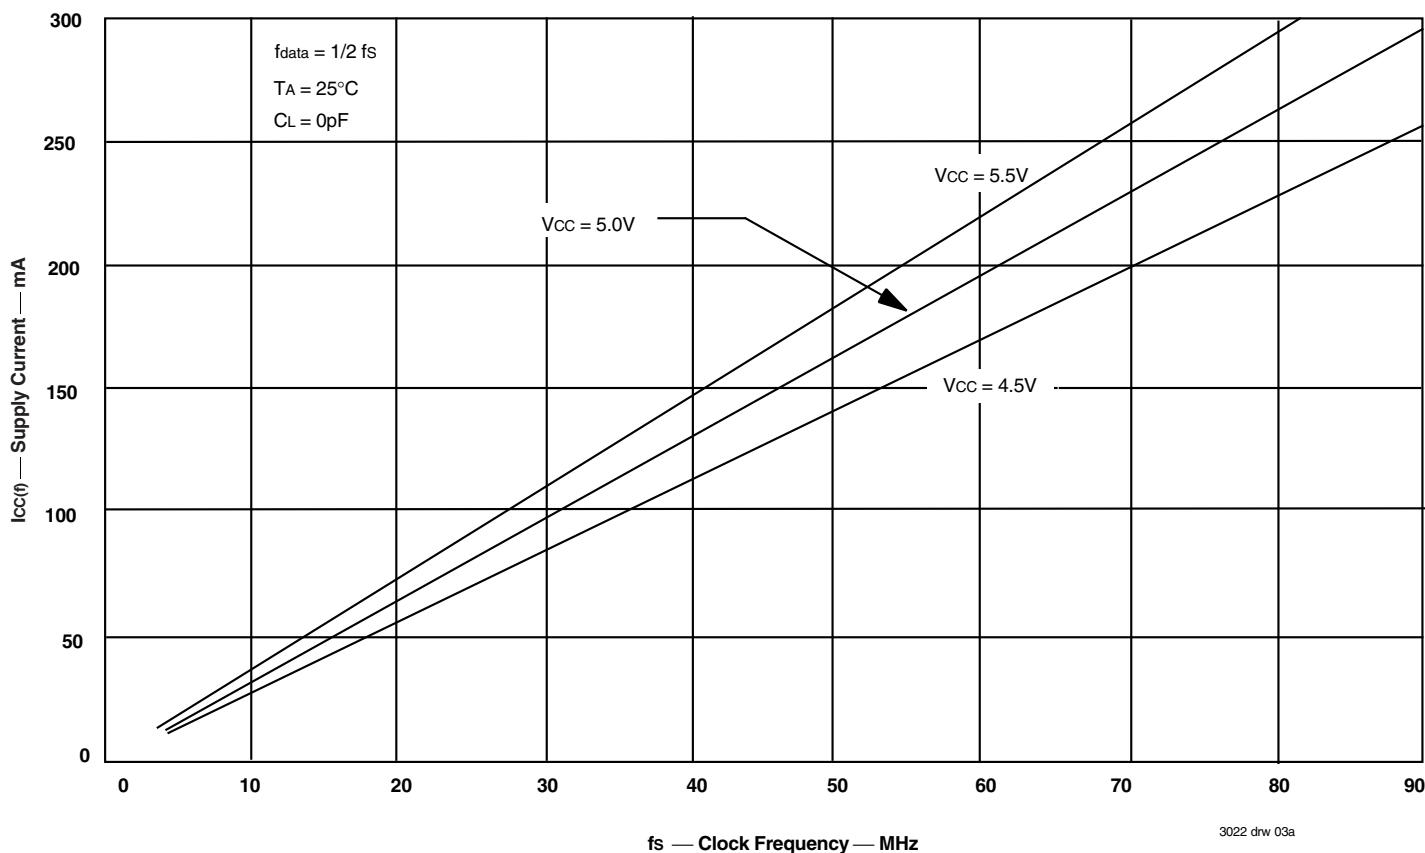

Figure 1. Typical Characteristics: Supply Current (I_{CC}) vs Clock Frequency (f_s)
2. For additional I_{CC} information, see Figure 1, *Typical Characteristics: Supply Current (I_{CC}) vs. Clock Frequency (f_S)*.
The $I_{CC(f)}$ current for the graph in Figure 1 was taken while simultaneously reading and writing a FIFO on the IDT723622/723632/723642 with CLKA and CLKB set to f_s . All data inputs and data outputs change state during each clock cycle to consume the highest supply current. Data outputs were disconnected to normalize the graph to a zero capacitance load. Once the capacitance load per data-output channel and the number of these device's inputs driven by TTL HIGH levels are known, the power dissipation can be calculated with the equation below.
With $I_{CC(f)}$ taken from Figure 1, the maximum power dissipation (P_T) of these FIFOs may be calculated by: